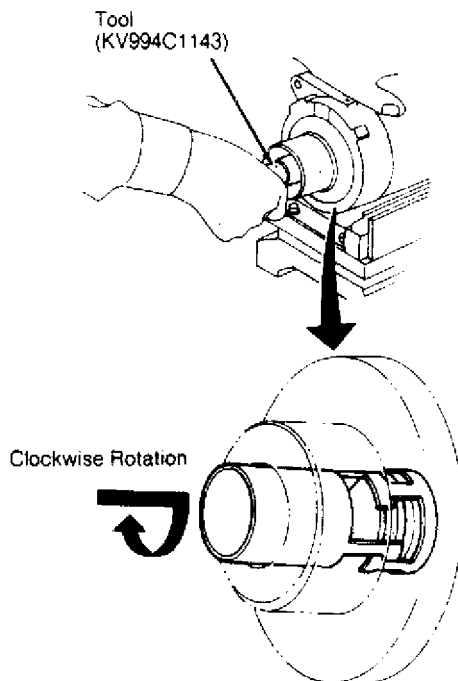

Fig. 11: Hitachi 6-Cylinder Compressor Shaft Seal Removal
cover at low pressure side of compressor. Connect Pressurizer (KV994C1552) to can of R-12 refrigerant. Wrap a rag around compressor shaft. Apply pressure of 28-71 psi (2-5 kg/cm2) at low pressure (suction) service valve of compressor. Catch shaft seal seat in rag. See Fig. 11.
4) Insert shaft seal Remover/Installer (KV994C1143) through the open end of front cover. Depress carbon seal and hook tool at case projection of shaft seal. Slowly pull out to remove shaft seal. See Fig. 11.